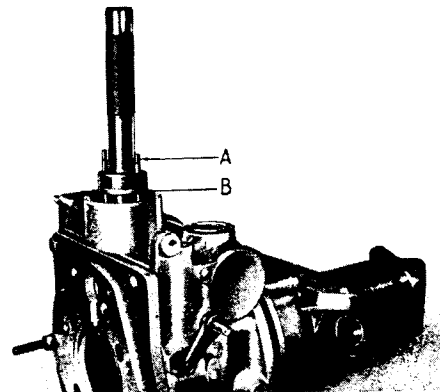

Fig. 12 Inserting the Oil Pump using Churchill Tool No. L 184.
To replace the oil pump body which is an interference fit in the casing, use two number 10 U.N.F. studs about 3" (7.5 cm.) long (A) as guides and drive the pump body (B) home with a suitable brass drift, or use the special tool which incorporates the two guides (Fig. 12).